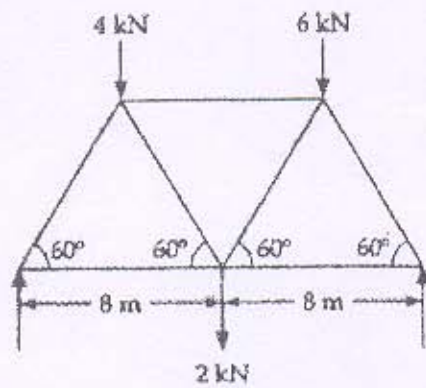

Figure 5
- Q - 3 (a) Determine the forces in all members of the truss shown in **Figure 5**. [07]